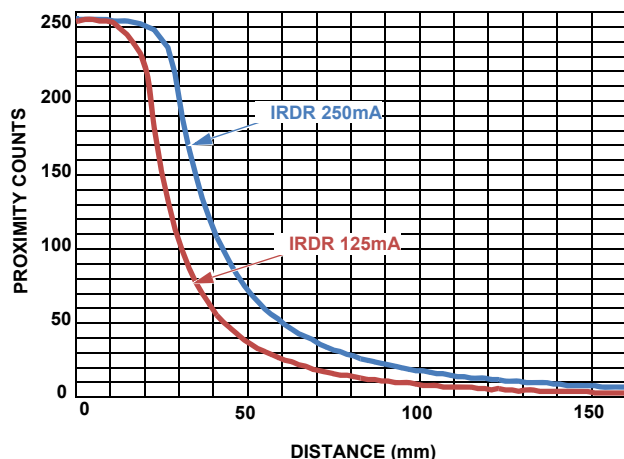

FIGURE 5. PROXIMITY SENSITIVITY (Note 11)
11. Figure 5 shows ISL29147 Proximity distance sweeps with different IRDR LED current settings using an 18% Grey card reflector.